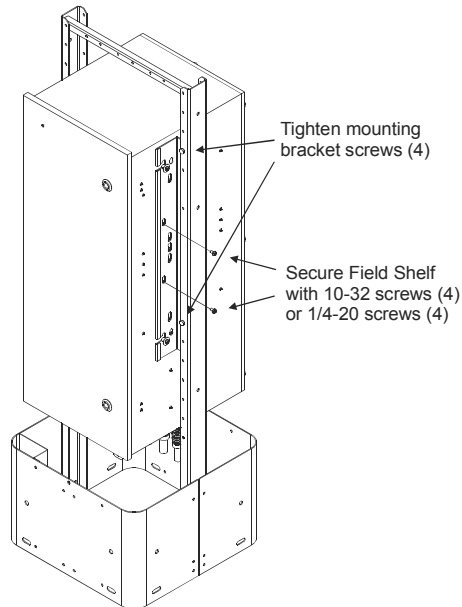

Figure 15. Securing the Field Shelf
3. Use the 10-32 x 3/8" Pan Head Phillips screws or 1/4-20 x 1/2" Hex Washer Head screws to secure the Field Shelf to the mounting brackets (**Figure 15**).